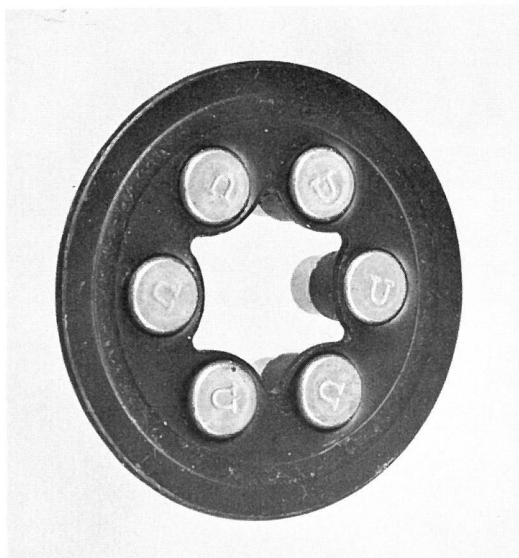

Figure 57. Lightning Blank Adaptor
57. *Lightning Blank Adapter (figure 57)*